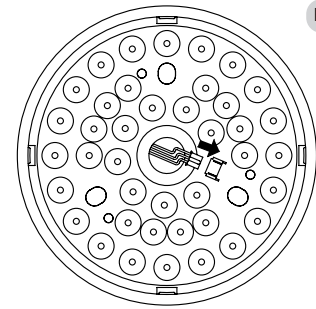

Fig. 11
8. For models with LED light; Remove the 3 screws on the fitter plate below the blades. Connect the plug from the fan to the plug connector on the LED boards. Refer Fig. 11